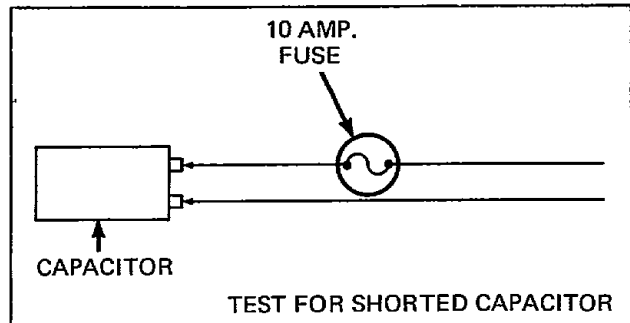

Figure 62
- Substitute a 10 amp fuse for the test lamp, *Figure 62*. Touch probes to capacitor terminals momentarily (not longer than 2 seconds). If fuse burns out, replace the capacitor.